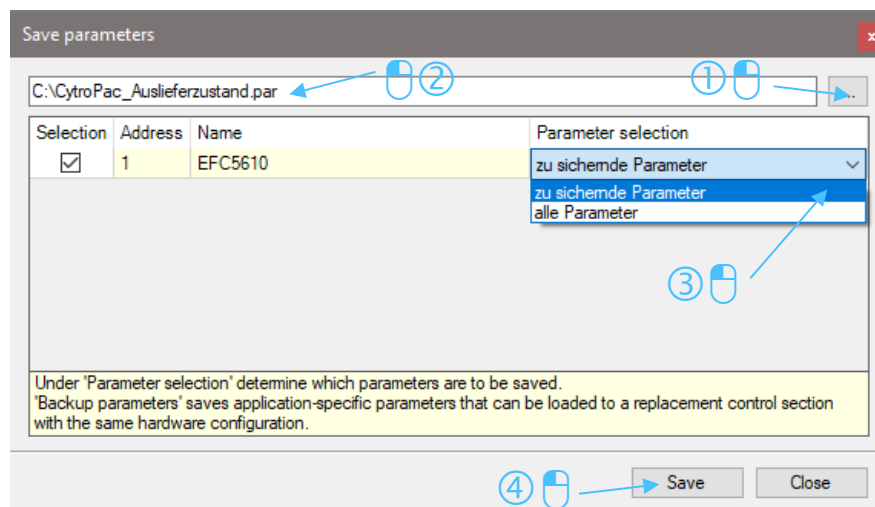

Abb. 8: Save parameters window
- Now, select a path and assign a name for the parameter file. You can save all parameters or the backup parameters (see Abb. 8: Save parameters window).